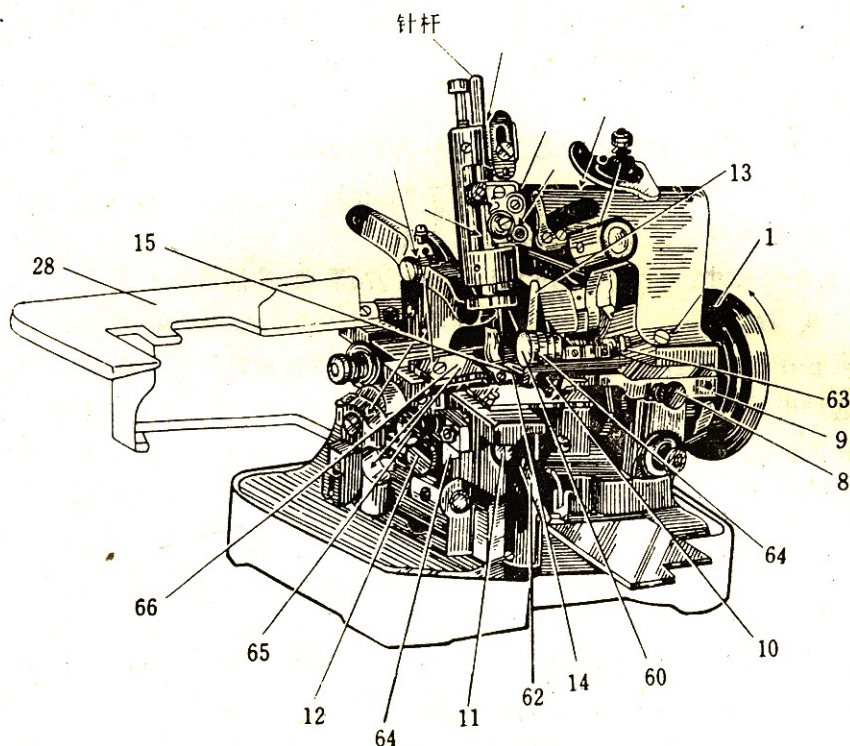
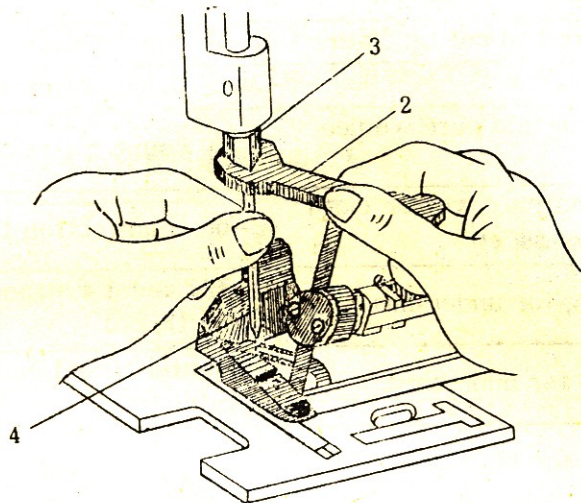

图 1
图 4
3) 润滑和试车：应该使用洁净的缝纫机油加入各个应该加油的部份（如图1—3箭头所示），并用手转动轮盘，使油渗入机件的运转部份。然后，用干布将流在零件外面的油揩抹干净，用较低的转速带动机器空车运转。如情况正常，可提高转速到每分钟2500转，继续空车运转几分钟，再检查各部份。直到情况完全正常时，方可正式使用。
机器充份跑合。经过一个月左右的使用后,可根据工作的性质再提高到每分钟3000转。机器轮盘应向外旋转(参阅图1),也就是面对轮盘处端面时,轮盘按顺时针方向旋转。
To ensure longer service life, at first the machine should be run at a speed of not more than 2500rpm so as to break it in sufficiently. After use for a month, the speed may be increased to approx. 3000rpm according to the material being sewn. The machine balance wheel should be turned toward the outside i.e. when facing the wheel, it should be turned the clockwise (see Fig. 1).
调换机针时, 可用右手向外旋转轮盘 1 (参阅图 1 及图 4), 使针杆上升到最高位置、然后用本厂随机供应的搬头 2 (图 4), 将夹针螺母 3 向左旋松, 取下机针 4 换装所需要的机针。
Turn balance wheel(1) clockwise first as shown in Fig.1 until the needle bar is in its highest position. Loosen the needle clamp screw(3) by turning it clockwise with the spanner(2) (Fig.4) supplied with the machine, and exchange the needle(4) for a suitable one.
针迹的宽度同样可以根据工作物的需要在本厂规定的范围内调节。要调节针迹宽度，必须同时调节切边刀地位和编结导块的地位。调节时，首先旋松拦刀架螺丝 8 (参阅图 1)，
The stitch width can also be regulated according to the requirements of the workpiece, within the range specified by the manufacturer. To regulate the stitch width, the positions both for knife and loop finger have to be regulated at the same time. First loosen the screw(8) of the knife guard bracket (shown in Fig.1) and move the knife guard bracket(9) together with the knife guard(10) to the right. Then loosen the screw(11) of the lower knife holder with a screwdriver and turn its adjusting screw(12) with the hand so as to move the lower knife holder toward the left or right side to reach the required position. Then tighten the screw(11) of the lower knife holder. Finally, move the knife guard bracket(9) to the left until the left end of the knife guard(10) touches the upper blade(13) gently. Then tighten the screw(8) of the knife holder.